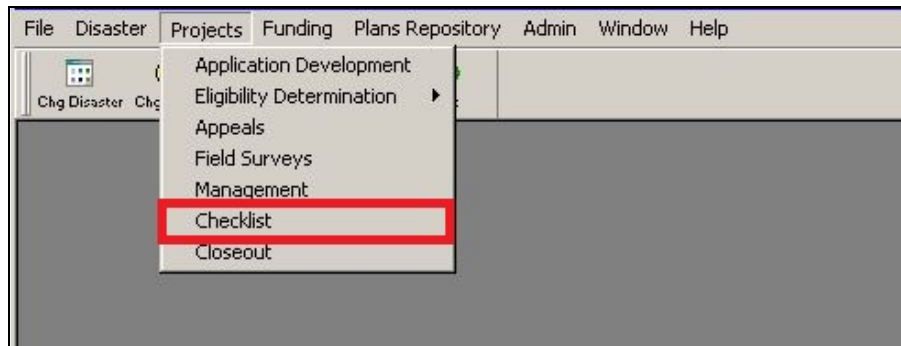

Figure 11-23: Mitigation >Projects >Checklist
1. On the MITIGATION menu, click on Projects > Checklist (Figure 11-23).